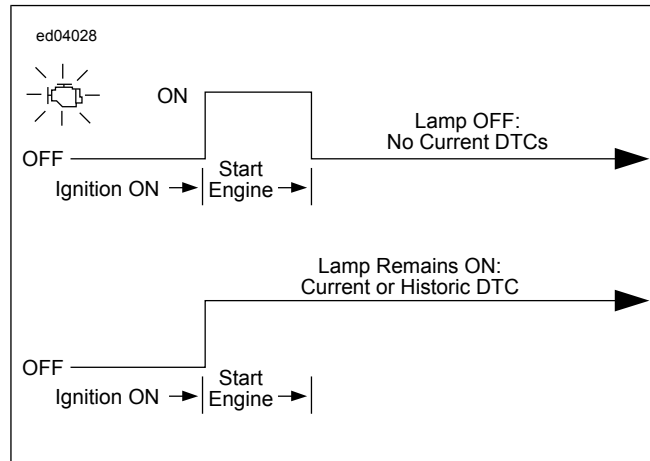

Figure 4-17. Check Engine Lamp
- See Figure 4-17. The lamp turns off. This indicates there are no current or historic stored DTCs currently detected by the ECM.